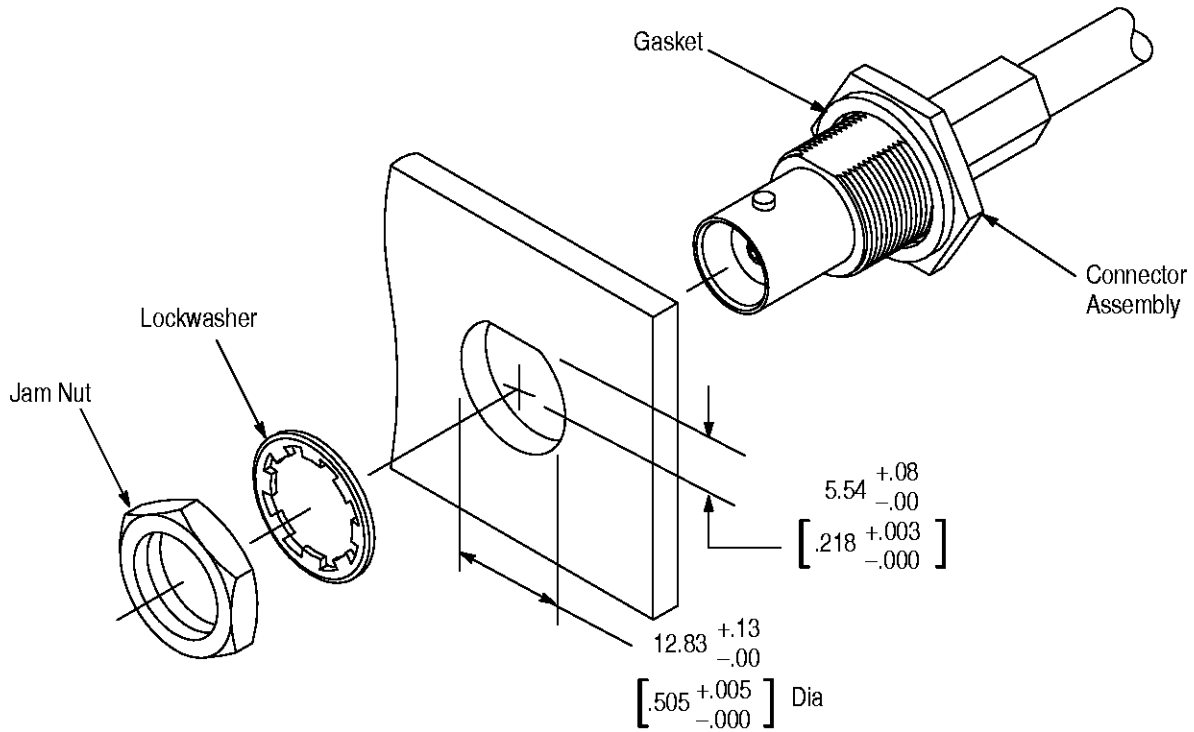

Figure 6
8. Make the panel cutout using the dimensions shown in Figure 6. Install gasket onto connector assembly; then insert assembly through the panel cutout and secure it with the lockwasher and jam nut.